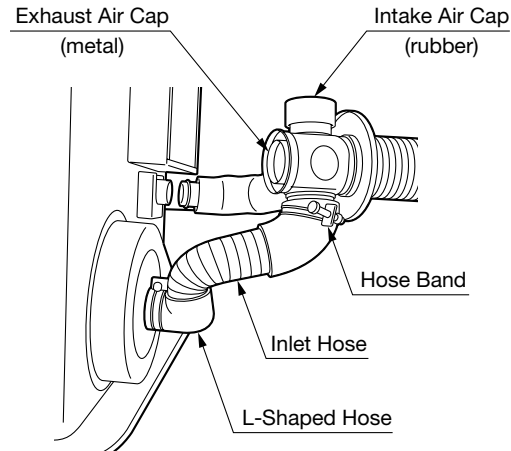

Fig. 10
6. Insert the bent joint to the exhaust opening of the flue pipe. Cut the inlet hose for desired length if necessary. Attach the L-shaped hose to each end of the inlet hose and attach the L-shaped hose to the intake opening of the flue pipe. Secure the L-shaped hose to the intake opening with the hose band. Plug the unused exhaust (metal) and intake (rubber) opening with the caps provided with the heater. Make sure the caps fit tightly onto the opening (See Fig. 10).